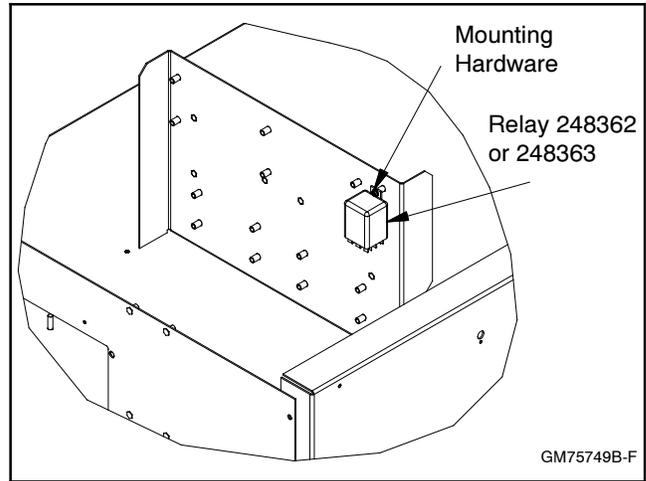

Figure 5 Mounting Relay to Bracket (Typical 20-300 kW Shown)
- 4.2 Position the relay with the electrical connections pointing downward and mount the relay (248362 or 248363) to the junction box bracket using two screws (M7985A-04010-20) and two lock washers (X-22-7). See Figure 5.